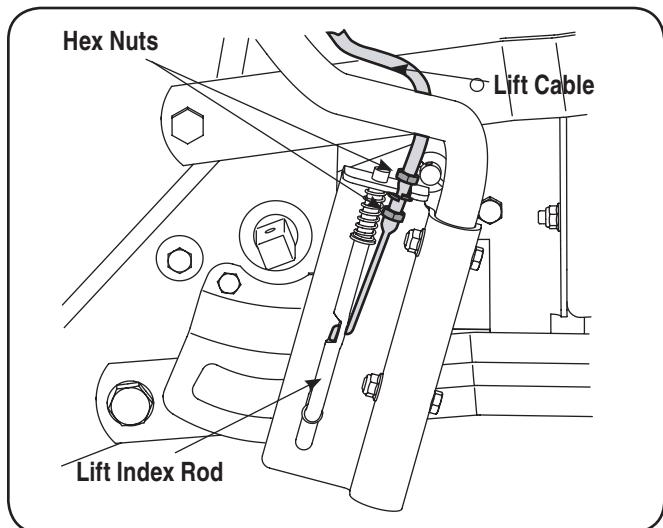

Figure 3-23
If the lift index rod, as seen in Fig. 3-23, doesn't latch securely or the pivot release has too much slack in it, an adjustment can be made as follows:
- Loosen the upper hex nut a few turns, then tighten the lower hex nut to shorten the cable length. See Fig. 3-23.
- Loosen the lower hex nut a few turns, then tighten the upper hex nut to lengthen the cable. See Fig. 3-23.